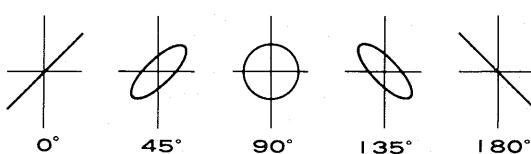

Fig. 3
5. Adjust VERTICAL and HORIZONTAL GAIN controls to obtain a pattern as shown in fig. 3, 0°, (45° upward slanted line).
6. Push DISPLAY SWITCH No. 2. Pattern will be a Lissajous pattern composed of signals 1 and 2 (1: vertical, 2: horizontal). If both signals have exactly the same frequency, patterns as in fig. 3 can be obtained.